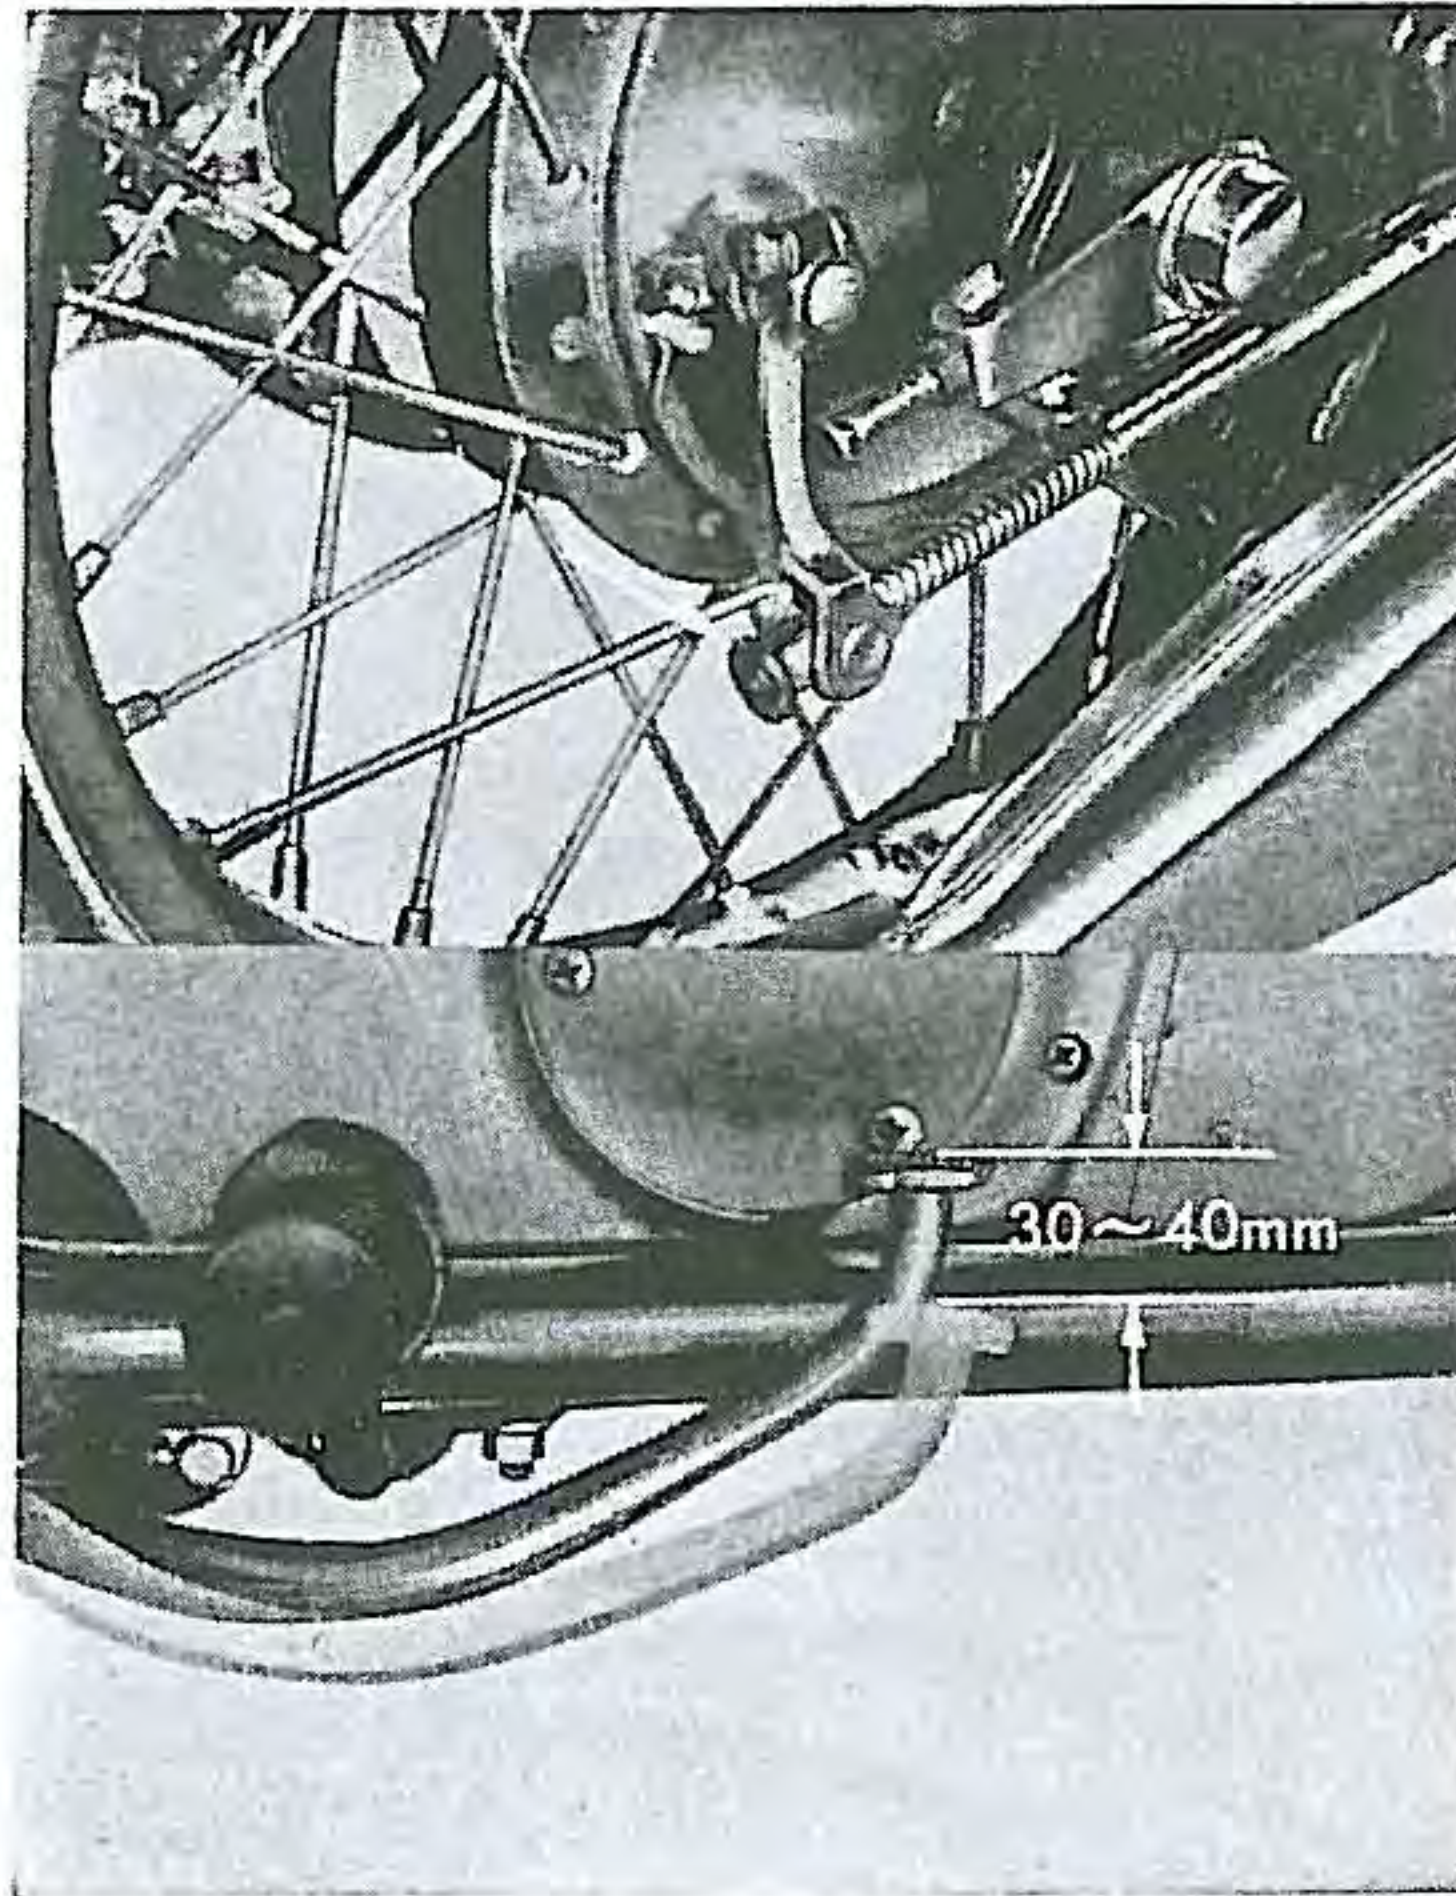

Fig. IV-10. Adjustment of rear brake
- (1) Adjust the rear brake pedal until there is 30-40 mm (1.2-1.6") free travel before the rear brake begins to operate. (Fig. IV-10)
- (2) To adjust, turn the rear brake adjusting nut in the needed direction. Turn the nut in to reduce the pedal travel and out to increase the pedal travel.